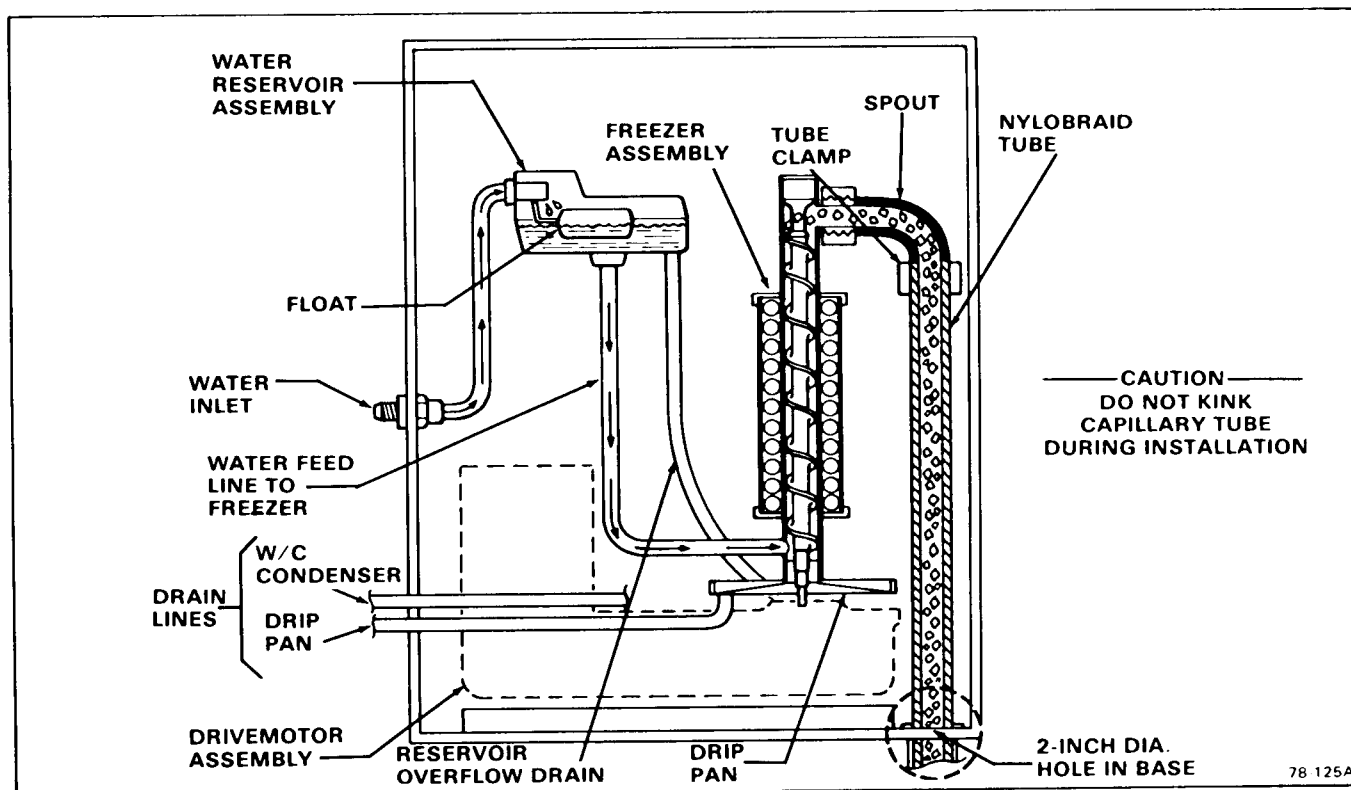

Figure 2 - 1. Water Schematic.
3. Observe the water filling operation, see Figure 2 - 1: